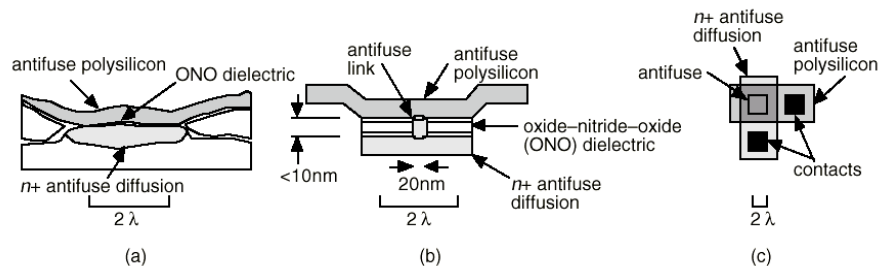

Figure 3.1 Actel antifuse
3.1.1 Antifuse (See figure 3.1)